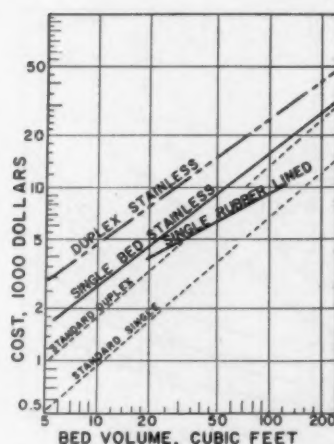

Fig. 3.—Costs (f.o.b.) of acid cycle cation exchange units with high capacity resin
Cation exchange systems employing an acid regenerant generally use rubber-lined or stainless steel equipment, and the f.o.b. costs of such units as shown in Fig. 3 are higher than those for sodium cycle units. All original cost data obtained for these types of system were for single-bed units, and the prices of the duplex units were computed from these original data. The curves for single-bed units are each based on less than twenty-five datum points. For comparative purposes the costs of standard sodium cycle mild steel units with high capacity resin are included in Fig. 3.
The cost of duplex stainless steel units was computed by two methods: (1) by use of the duplex-to-single bed ratio for standard mild steel units; and (2) by the addition of the costs of an extra tank, necessary valves, and resin to the cost of a single unit. The ratio method resulted in cost figures 3 per cent higher for small units and 20 per cent higher for large units. The curve shown is a compromise between the two sets of values.
The slope of the curve for single-bed stainless units is 0.78, which is closer to the common 0.6 scale-up factor and reflects the increased cost of the tank and pipes. As a rule of thumb, acid-cycle unit costs are often estimated at 1.75 to twice those of standard sodium-cycle units. Data of Fig. 3 suggest this is satisfactory for rubber-lined units, but indicate that the factor should be 2.5 to 3 for stainless steel equipment.